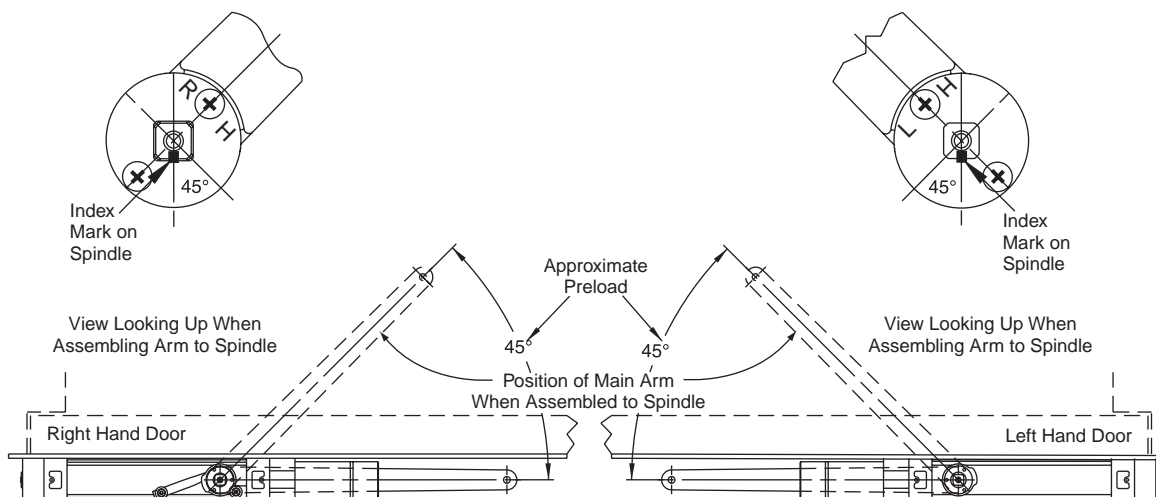

Figure 4
4. With appropriate size wrench, rotate closer top spindle approximately 45 degrees. (Figure 4)